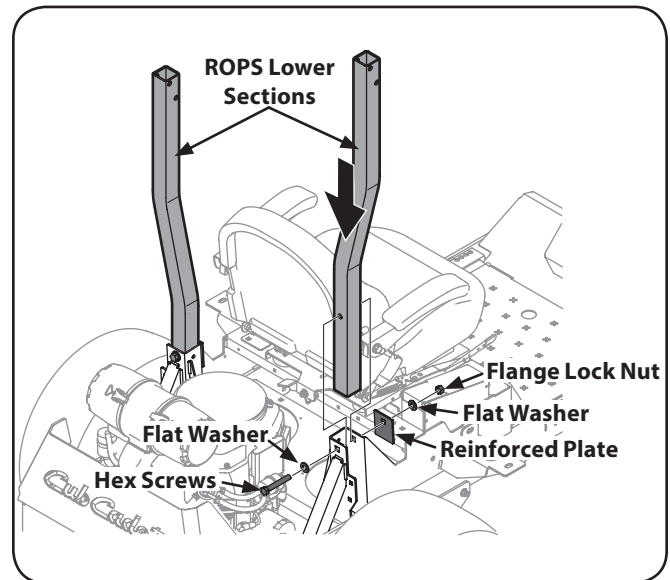

Figure 3-4
1. Insert each of the ROPS lower section tubular posts into the brackets welded to the machine main frame. See Figure 3-4.
2. Insert the hex screws (one per side) through the flat washer then into the frame brackets and ROPS posts from the rear toward the front. See Figure 3-4. Alternately from the front toward the rear if access is restricted.
3. Install the reinforced plates, flat washers and flange lock nuts, but do not tighten. See Figure 3-4.
6. Tighten the frame mounting hardware to 80-90 lb.-ft. torque. See Figure 3-4.